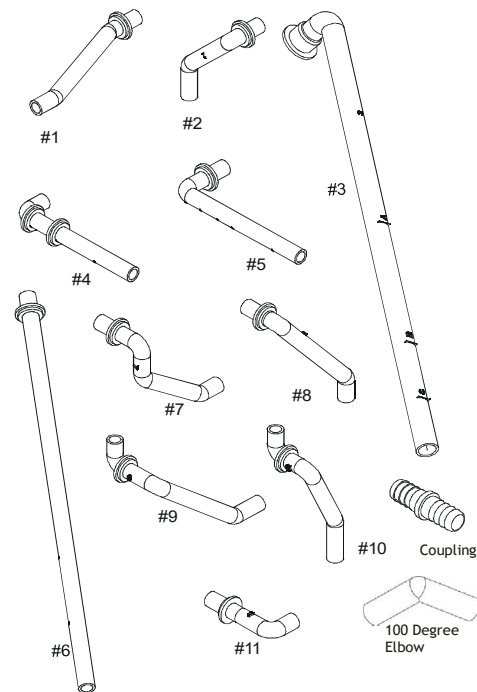

FIGURE 24
1. Locate and Install the 45° pipe / hose drain coupling from the outside of the cabinet (barbed end goes in the cabinet) through hole in the right side of the cabinet and secure with two field supplied #8 self-tapping screws (see Figure 24).